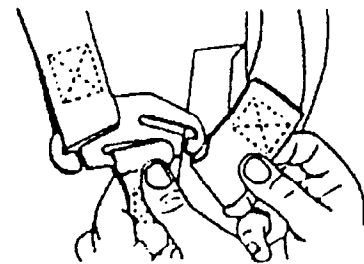

Figure 14
2. Position harness straps through lower slots in the seat's back. To change straps position, undo from steel splitter plate (Figure 14) at back and re-thread through lower slots. Reconnect to splitter, one strap at a time.